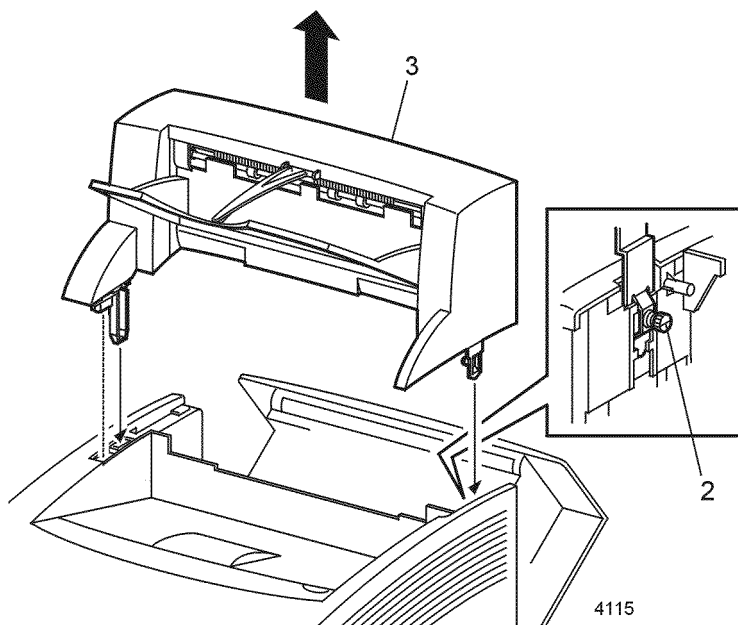

Figure 1 Offset Catch Tray
3. Lift the Offset Catch Tray (OCT) straight up and remove (Figure 1).